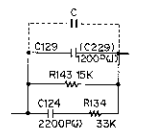

Fig. 6.2.4 Main P.C.B.
- (1) For SX Tape
- b. Feed in 10 kHz and 400 Hz (-20 dB) then record and play it back. Check the difference of the levels between 10 kHz and 400 Hz, and mount an additional capacitor in parallel with the C129 (C229) from the dip side of the printed circuit board depending upon the difference of the levels against 400 Hz. See Fig. 6.2.4.